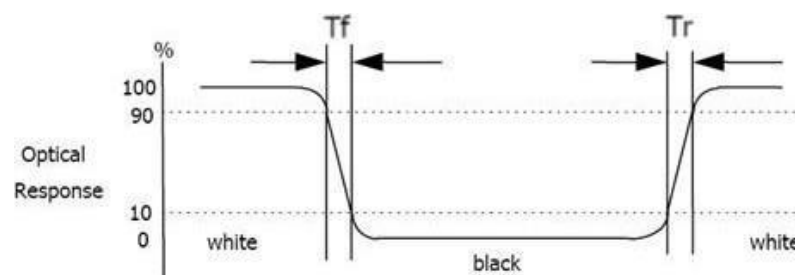

Figure 18: Response Time Testing
5. The electro-optical response time measurements shall be made as FIG.18 by switching the “data” input signal ON and OFF.